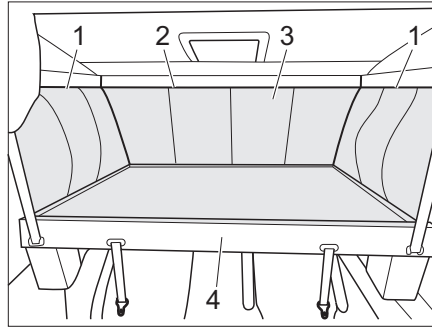

Fig. 83 Access to the blind box
- Lower the pull-down bed (Fig. 83,4) (see section 7.16.3).
- In order to release the pull-down bed sack (Fig. 83,3), open the side zips (Fig. 83,1) in the upper and front area from the front to back (Fig. 83,2).
- Remove the pull-down bed sack (Fig. 83,3) (Velcro fastener).